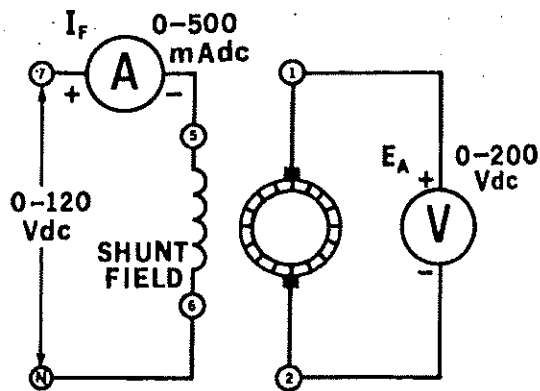

Figure 7-2.
- 3. a. Using your DC Motor/Generator and DC Voltmeter/Ammeter, connect the circuit shown in Figure 7-2.